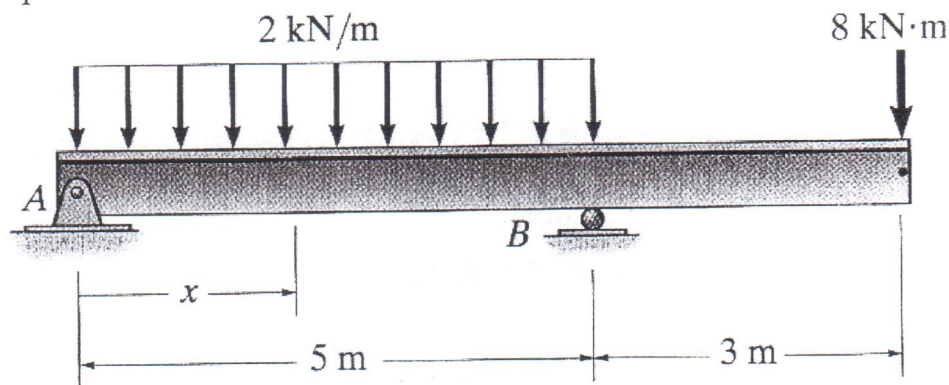

Figure 4.
- (4) Derive the equations of the slope and elastic curve for the loaded beam shown in **Figure 4**. EI is constant. Determine the following in terms of EI :